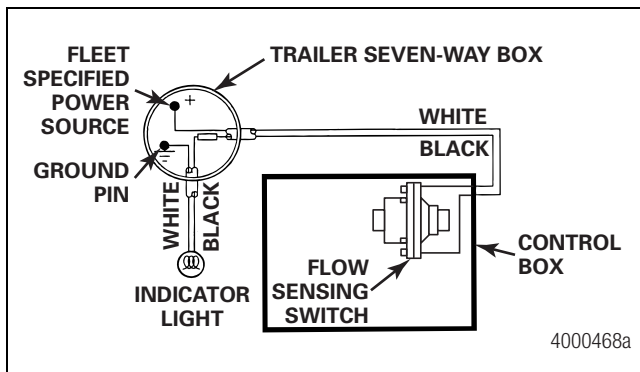

Figure 2.64
- Route a length of electrical cable from the indicator light to the trailer seven-way box. Figure 2.64.
- Route the electrical cable from the trailer seven-way box to the tire inflation system control box. When you route the tire inflation system electrical cable, use grommets to protect it from contacting sharp edges at hole locations. Use tie wraps to secure the cable to the existing trailer air and electrical lines. Figure 2.64.
- In the trailer seven-way box, connect the white wire eye connector from the control box to a pin that will supply constant 12-volt power. The system must be tapped into a power source in the trailer seven-way box that will provide constant 12-volt power. The installer must decide which pin will supply this requirement. Connect the white wire from the light to the ground. Figure 2.64.